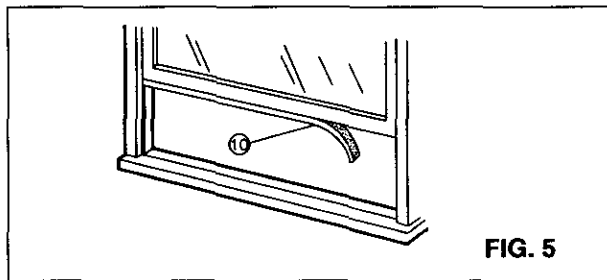

FIG. 5
- 3** Cut the FOAM-PE (10) to fit the underside of the window sash. Peel off the backing and attach the seal as shown in Fig. 5.